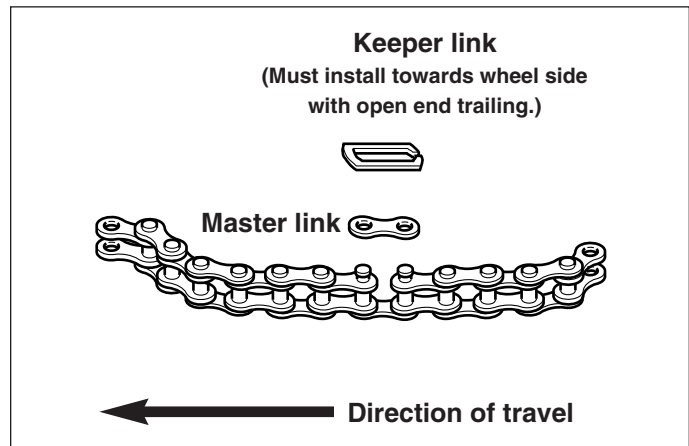

Figure 31. Roller Chain Master Link
6. Install new chain and master link as shown in Figure 31.